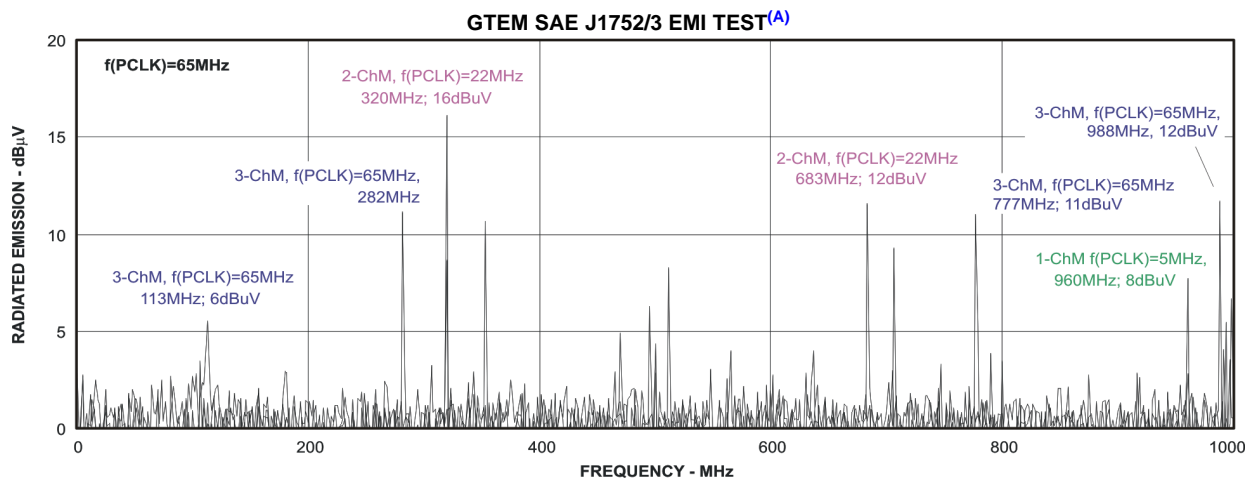

Figure 37.
- A. Figure 37 shows a superimposed image of three EMI measurements with the device operating at $f(\text{PCLK}) = 5 \text{ MHz}$, $f(\text{PCLK}) = 22 \text{ MHz}$, and $f(\text{PCLK}) = 65 \text{ MHz}$. This excellent EMI performance meets the system requirements of dense, mobile designs with a noise floor of $\sim 2 \text{ dB}\mu\text{V}$ (-105 dBm) and all spurs being smaller than $16 \text{ dB}\mu\text{V}$ (-101 dBm). The test was performed in compliance with the SAE J1752/3 EMI test guidelines.